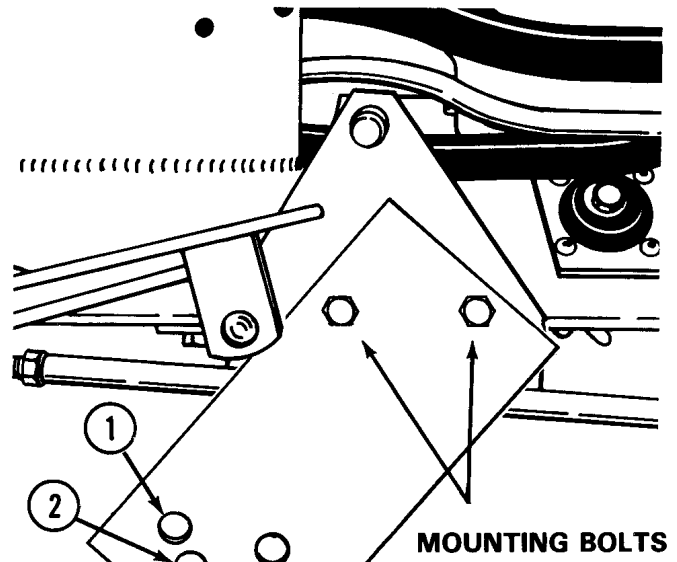

FIGURE 9 (Late Production)
6. Fasten the adapter plate to the tractor lift lever with two bolts. See Figure 9.